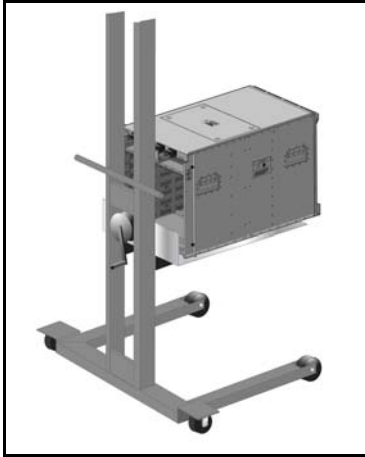

Figure 9: Lifting the Switch Chassis
Step 1 Move the chassis to the rack using a mechanical lift (Figure 9).